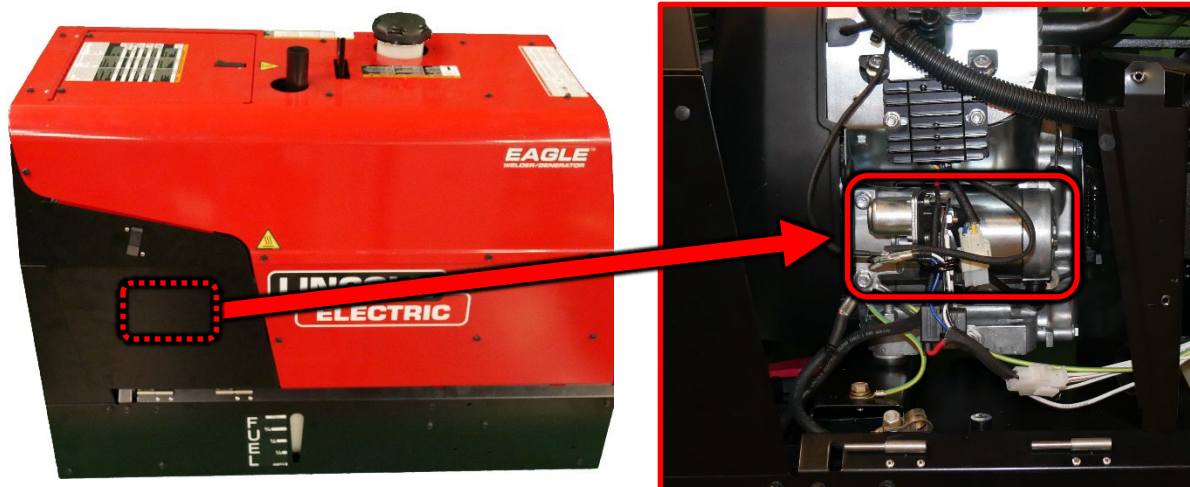

Figure F.1
1. For location of the Starter refer to Figure F.1.